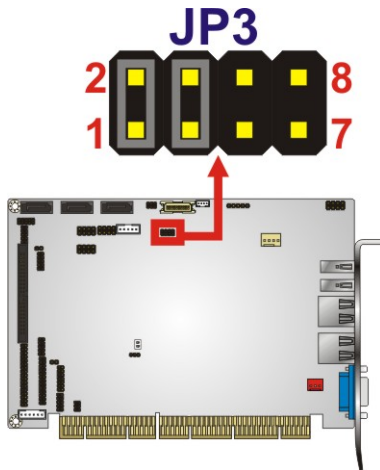

Figure 4-7: LVDS Resolution Selection Jumper Pinout Locations
- Jumper Location:** See Figure 4-7
The LVDS Voltage Selection jumper location is shown in **Figure 4-7**.